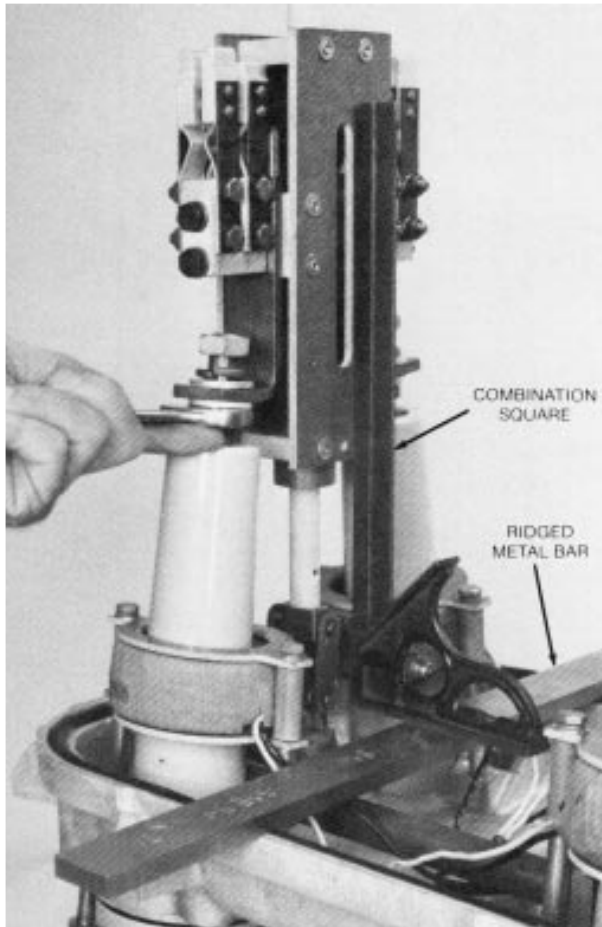

Figure 15.
8. Square the contact housing with the head casting bottom as shown in Figure 15.
12. Square the contact housing with the head casting bottom as shown in Figure 15.